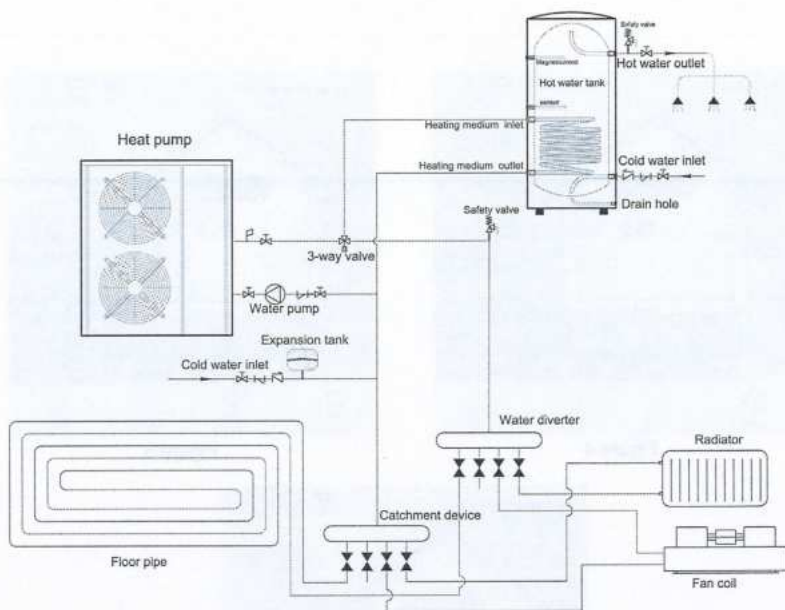

Figure 2
- 1) System installation diagram to see Figure 2.